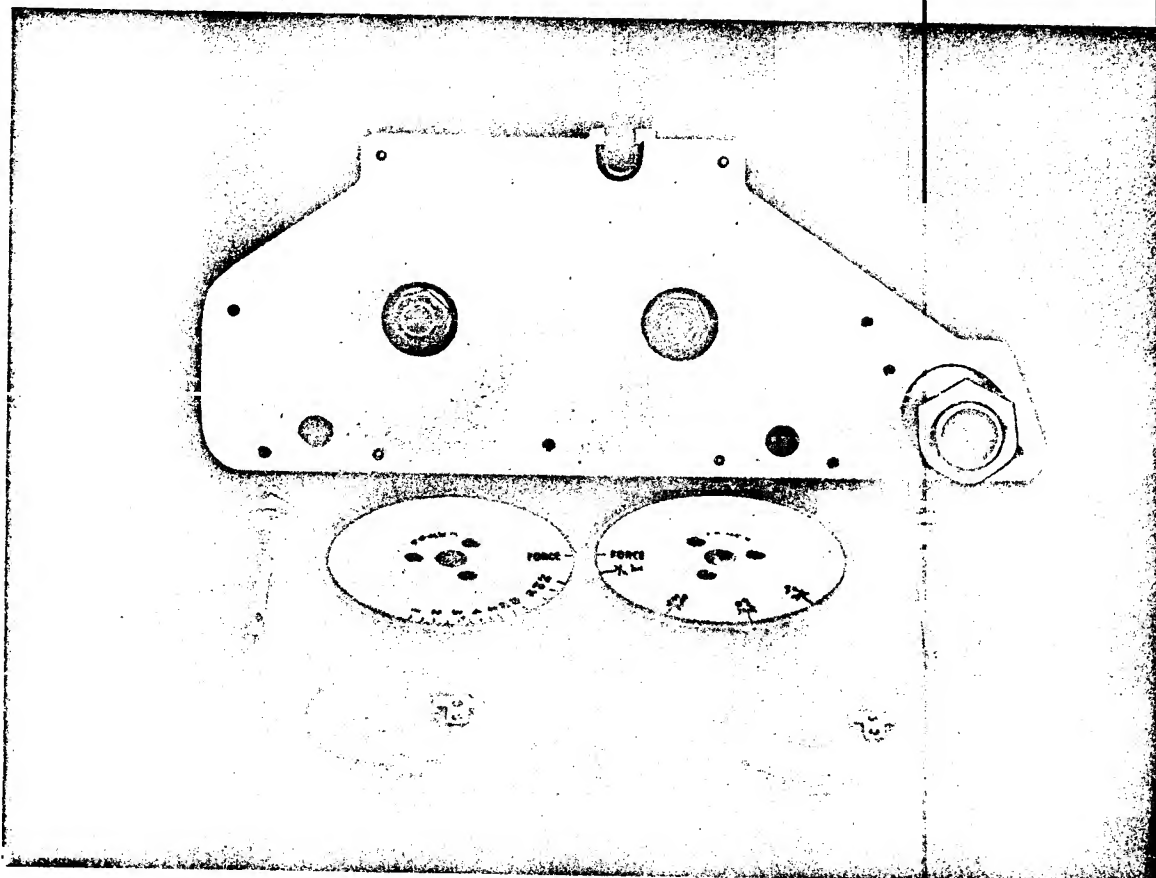
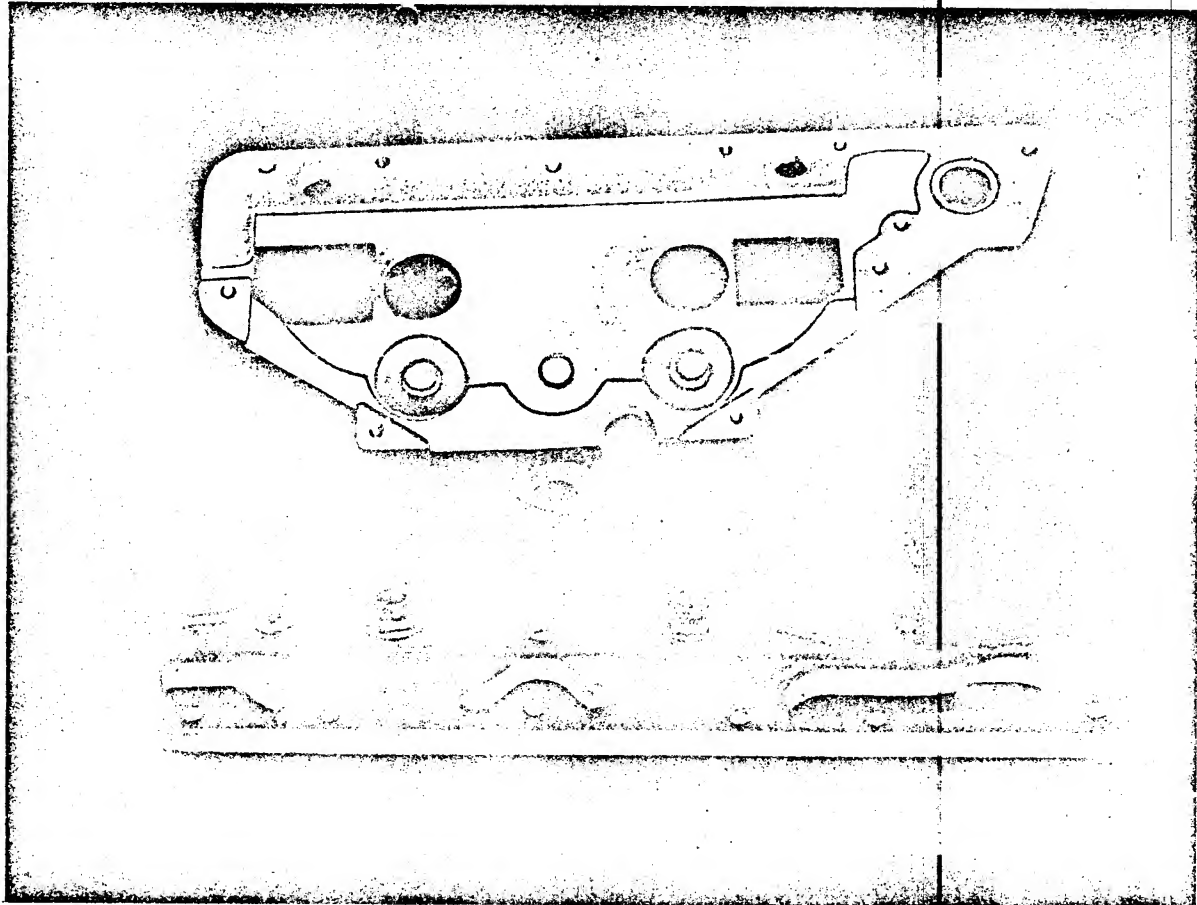
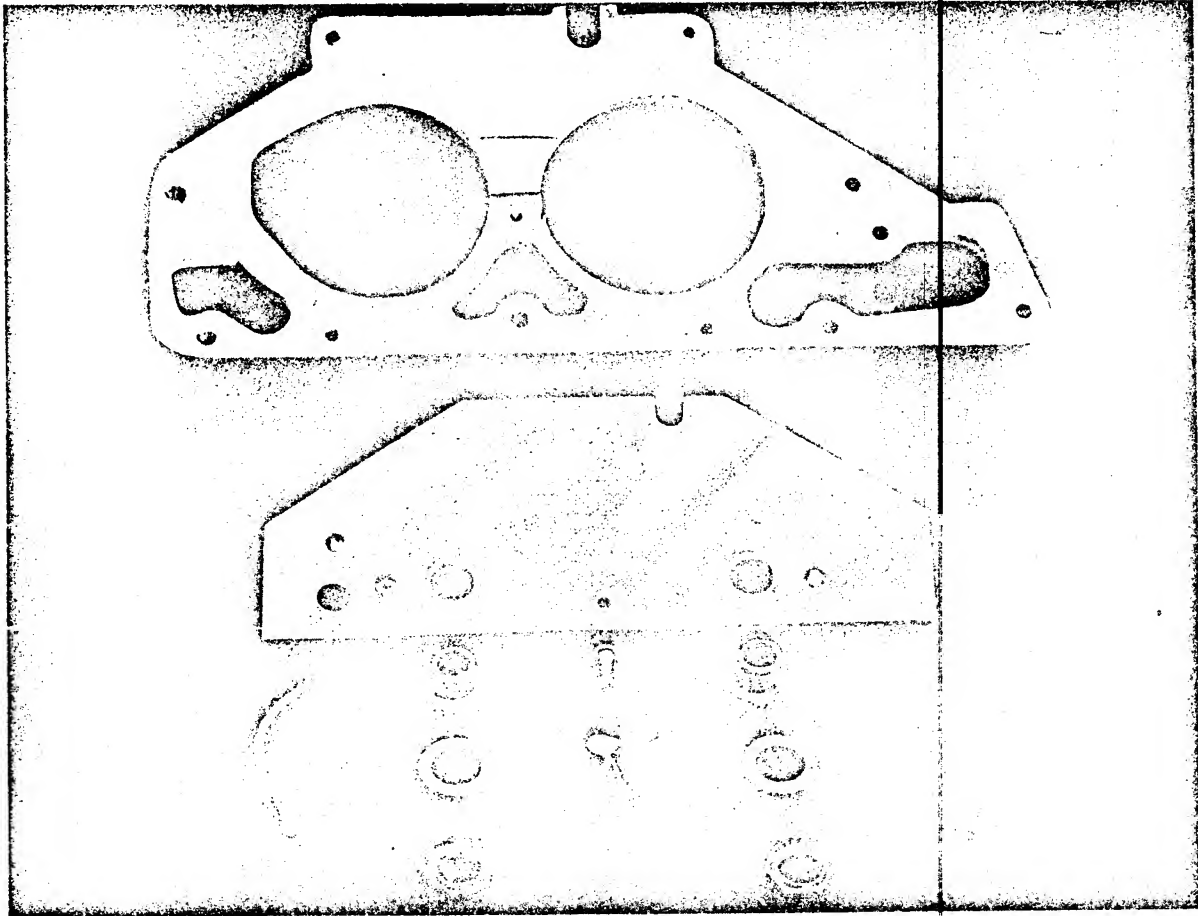

Fig. 2.2.4
Fig. 2.2.5
Fig. 2.2.6
- (16) Loosen two Allen screws beneath dials on the attenuator.
- (17) Unscrew and remove control nut spindles. Lift off the dials.
- (18) Withdraw split pins under dials, and remove washers, and contact assemblies. See Figure 2.2.4.
- (19) Remove four 6 BA screws from beneath attenuator assembly.
- (20) Unsolder wire to output socket.
- (21) Lift off bottom casting (see Figure 2.2.5).
- (22) Remove screw from centre of the attenuator card, and remove card.
- (23) Remove brass ferrules, and fittings, two wires (one in series with a resistor), and a capacitor from attenuator card. (See Figure 2.2.6).
- (24) Replace faulty card with a new replacement and re-assemble.
- (25) When replacing the dials they should be locked on to the spindles after setting in the following positions:-